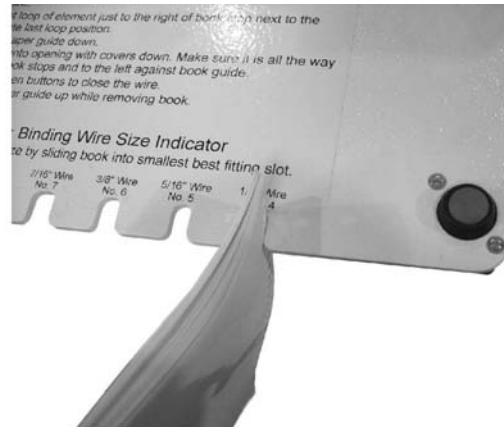

Fig. 8
4) Determine the correct wire size for a book: See figure 8.